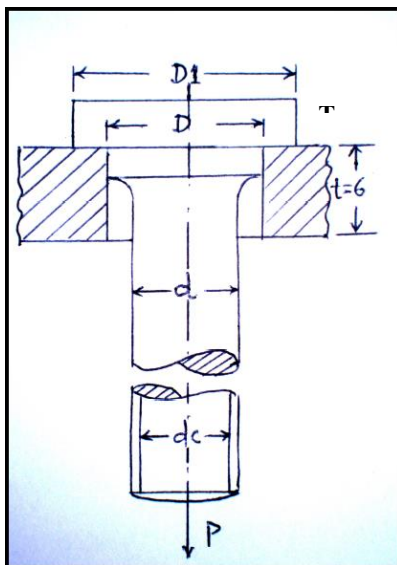

figure-1. Q-2 (a)
- Q.2 (a)** A bolt of diameter d is enlarged near its head to a diameter D . The head is cylindrical having diameter D_1 and thickness T as shown in figure-1. The bolt when fixed in a structure having 6 mm plate thickness t , takes a tensile load of $P=30$ KN. Determine the dimensions d , D , D_1 of the bolt using design stresses for the material of bolt as: **07**